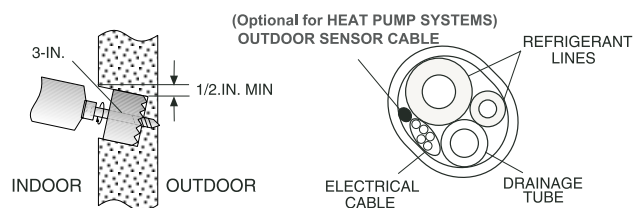

Fig. 5 — Drill Holes
To make the connections between the indoor and outdoor units, drill a (09, 12) 2.5-in, (18) 3-in. hole through the wall for the refrigerant lines, drainage hose and control cable passage as shown in Fig. 5.
5. Make sure the drainage hose is at the bottom side of the wall through-hole (see Fig. 5).